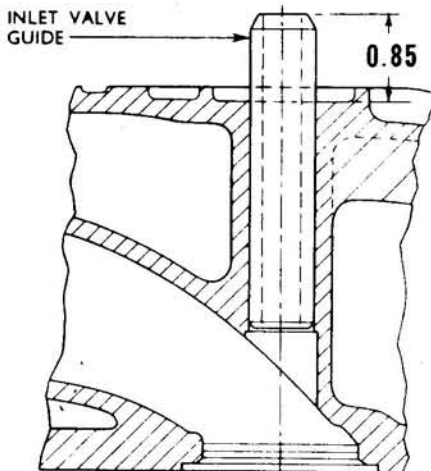

Fig. 25—Press intake (inlet) valve guide into cylinder head so protrusion above machined spring seat is 0.85 inch as shown.
42. Valve guide I.D. should be 0.375-0.376. Renew the valve guides if excessively worn. Press old guides out towards bottom of cylinder head and new guides in from top of cylinder head to dimension shown in Fig. 25 for intake and Fig. 26 for exhaust valves.